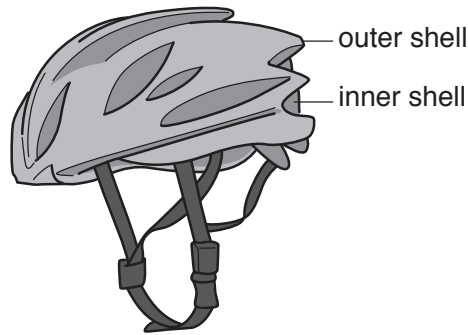

Fig. 1
- 1 Fig. 1 shows a cycle helmet. The outer and inner shells are made from different plastics.